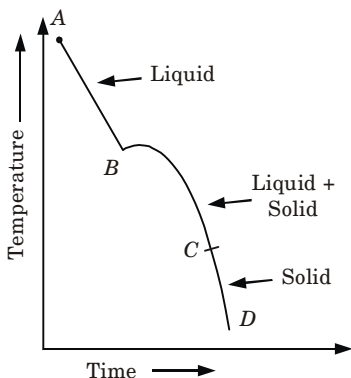

Fig. 4.11.2. Cooling curve for binary alloys.
3. The solid further cools along line *CD* to reach room temperature (Fig. 4.11.2).